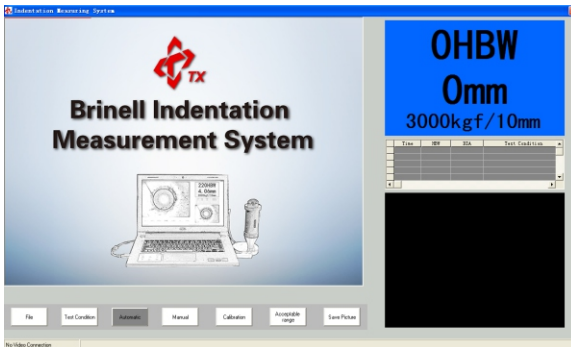

Figure 15: no video connection
5.2 No video connection(as shown in figure 15) If it shows this figure, please check if you connect the camera rightly.